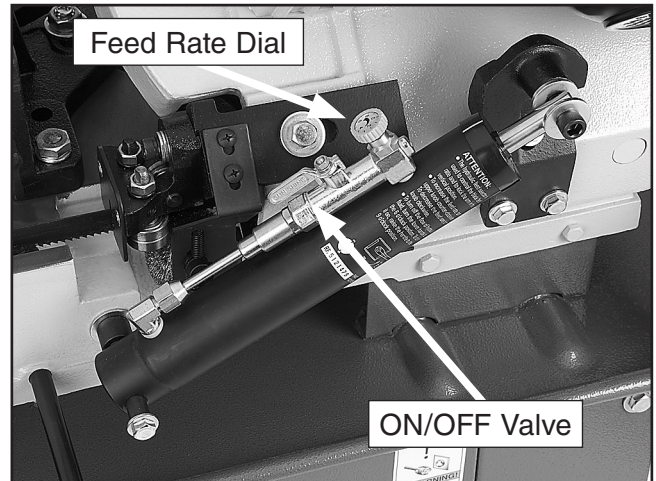

Figure 31. Feed rate dial.
4. Close the feed ON/OFF valve shown in **Figure 31**, to lock the bow and blade a few inches above the workpiece.
6. Open the ON/OFF valve, then slowly rotate the feed rate dial clockwise to a slow feed rate until the saw begins to cut the workpiece (see **Figure 31**).